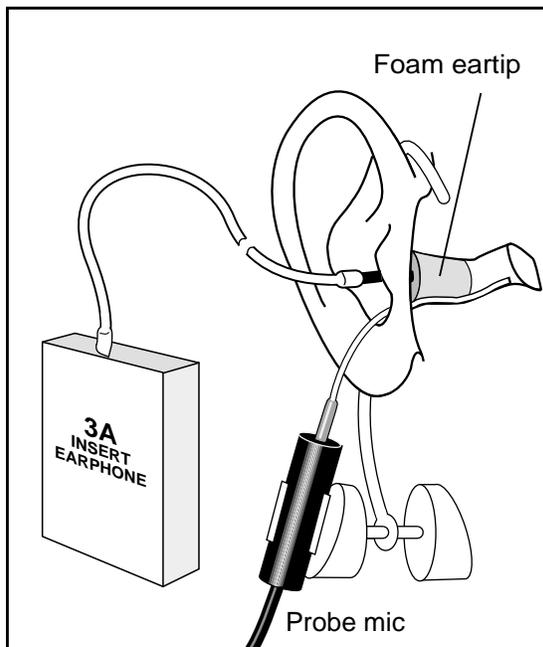

Figure 4.3A
4. Connect the insert earphone's tubing to the foam eartip. See Figure 4.3A